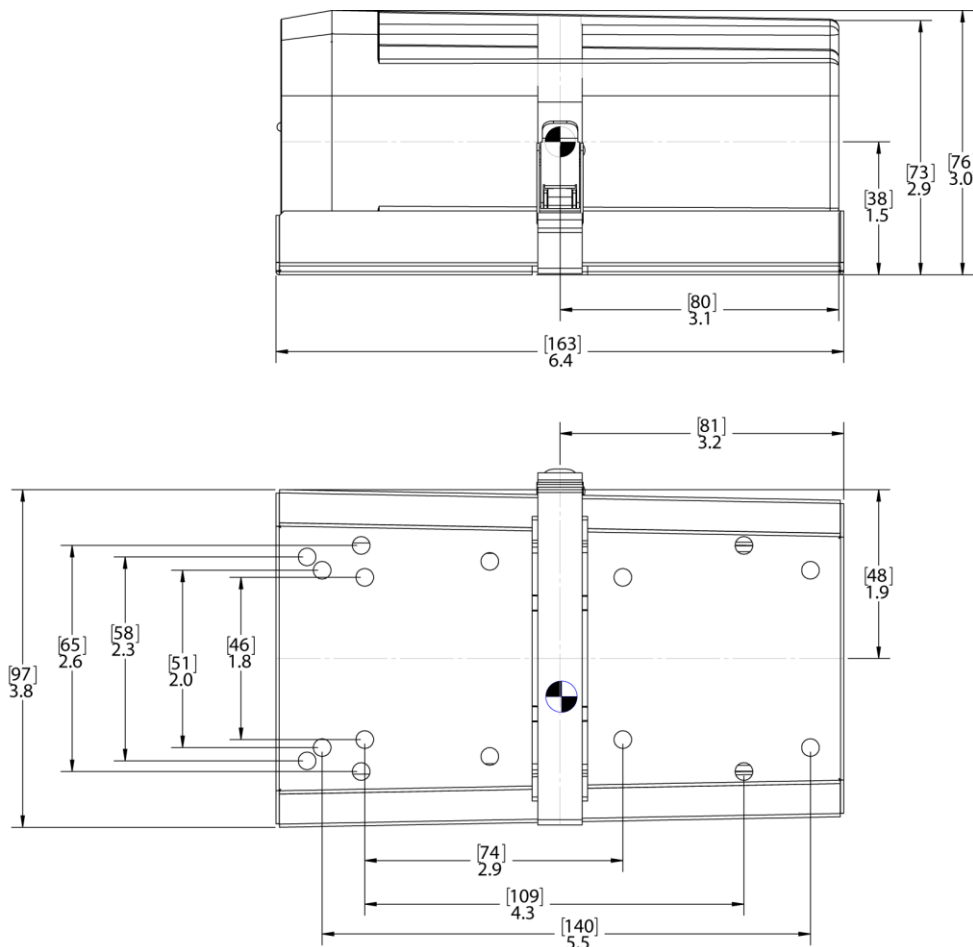
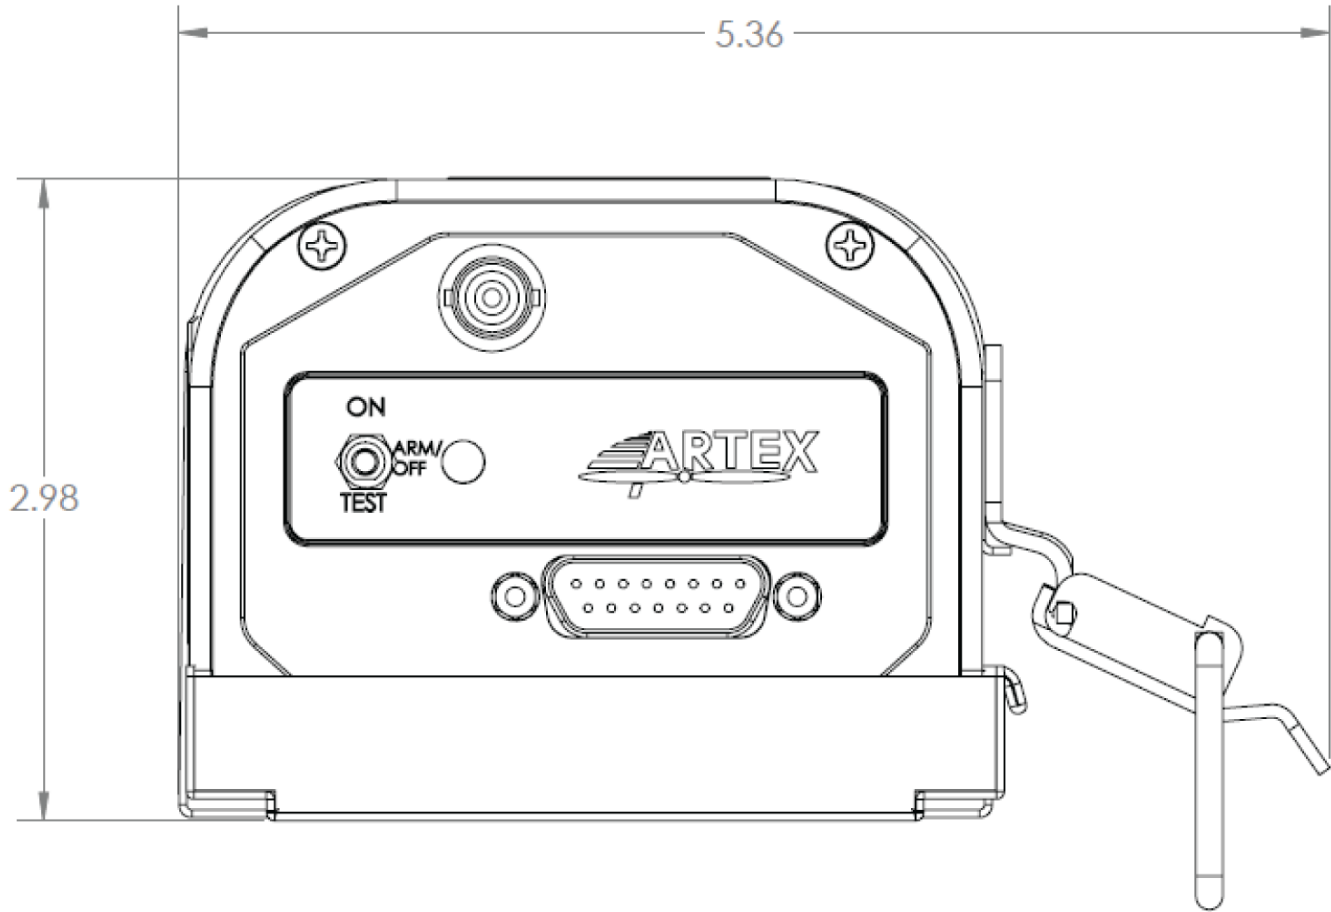

Figure 11 ARTEX ELT 345 Outline & Dimensions
Figure 12 ELT 345 Metal Strap Minimum Clearance Dimensions
- 1) Select a suitable location for the ELT mounting tray (see Figure 11 ARTEX ELT 345 Outline & Dimensions on page 39 and Figure 12 ELT 345 Metal Strap Minimum Clearance Dimensions above).
- 4) Mark and drill the four mounting holes with a #19 or 4.25 mm drill. Refer to Figure 11 on page 39 for the mounting hole pattern.